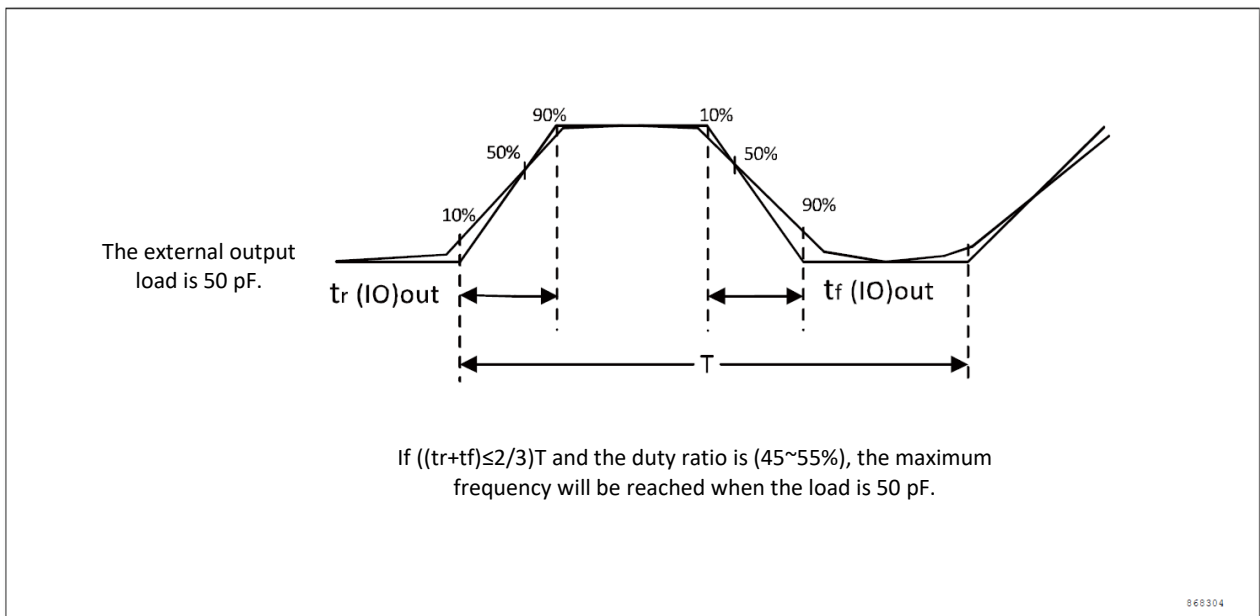

Figure 11 Definition of input and output AC characteristics
- 1) The maximum output frequency of IO is defined in Figure 11.